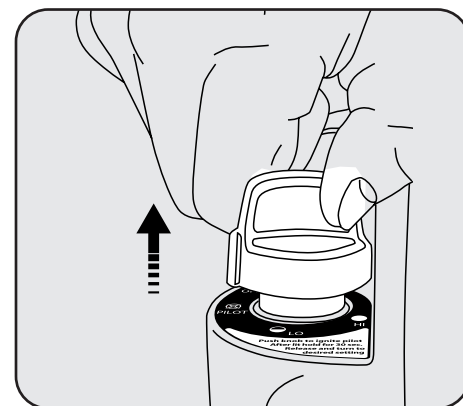

Figure 4
6. After pilot lights, hold down for 30 -60 seconds and then release knob. Knob should return to fully extended position. See Figure 4.
8. After pilot lights, hold down for 30 -60 seconds and then release knob. Knob should return to fully extended position. See Figure 4. The pilot should remain lit.